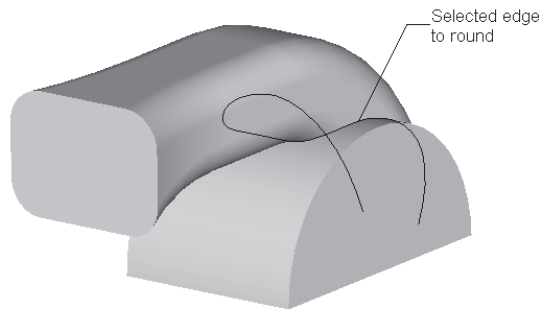

Figure 8-52 Figure showing a solid model
- e. The fourth feature is a round of radius 0.5, see Figure 8-52.
10. Select the edge where the base feature and the swept feature joins as shown in Figure 8-52.